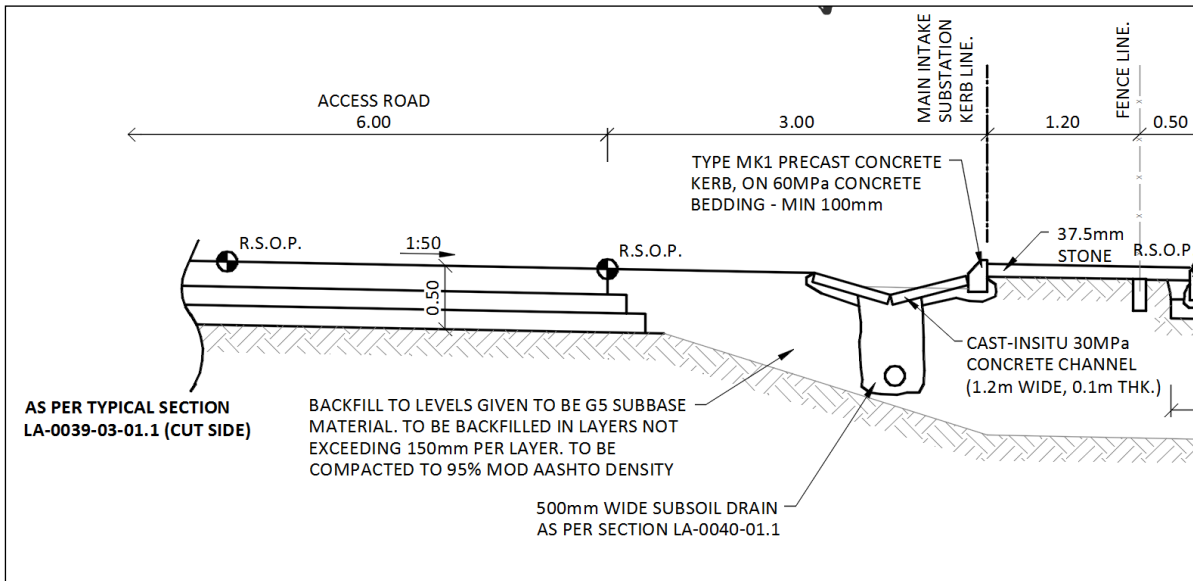

Figure 24: Typical Cast In-Situ Concrete Channel Detail
- Figure 24: Typical cast in-situ concrete channel detail.